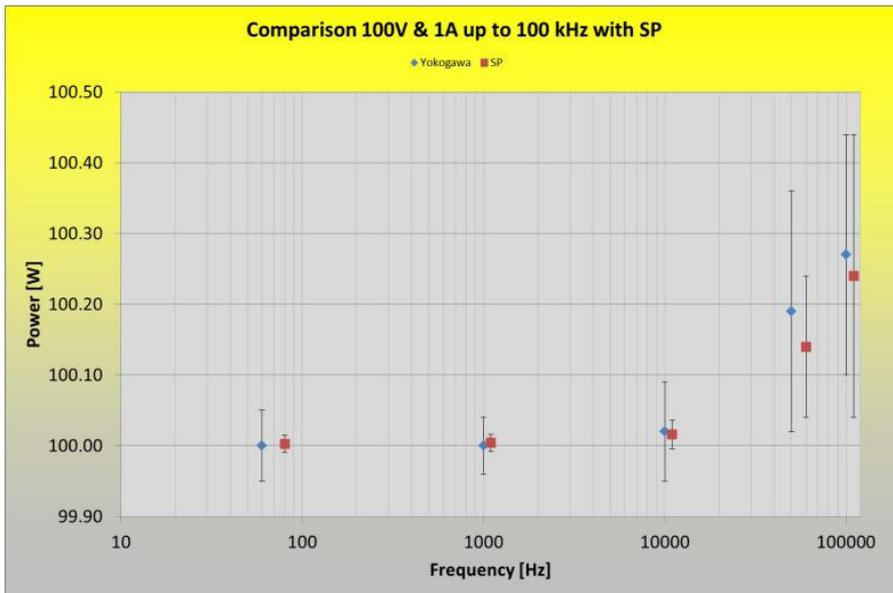

Figure 3 Power Comparison with SP
To confirm the calibration setup, a Yokogawa WT3000 power analyser was calibrated by Yokogawa, and then sent to the national Standards Laboratory of Sweden (SP). At SP they also calibrated the Yokogawa WT3000 at the same points which verified the results (Fig. 3).